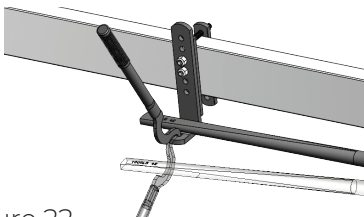
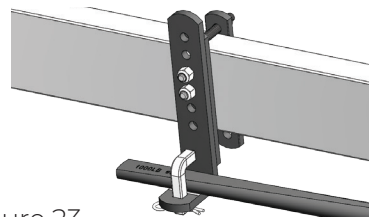

Figure 22
Figure 23
**C** – With the trailer still coupled, use the tongue jack to lift both vehicles until the spring arms can swing onto the L-brackets. (Figure 21) If needed, use the Snap-up lever to lift the spring arms onto the L-brackets. (Figure 22) Insert the L-pins and secure them in place. (Figure 23)